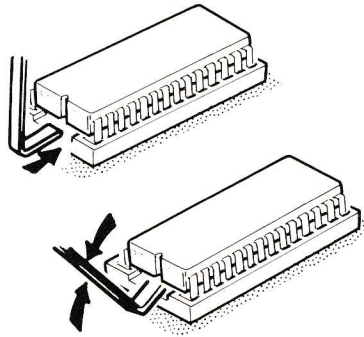

Figure 13. Removing the IC
- Remove the Monitor ROM IC by inserting an IC puller or small screwdriver beneath the IC, as shown in Figure 13. Gently rock the puller back and forth until you are able to grasp the IC with your fingers and lift it out of its socket. Be careful not to bend the pins of the IC as you remove it. Place the IC in conductive foam and keep it with your original keyboard. You can use the conductive foam (black material) that your new ROM IC is packaged in.